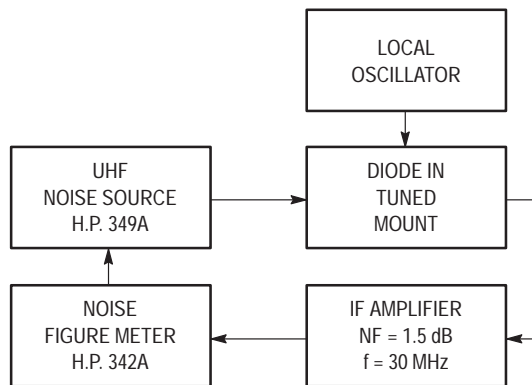

Figure 5. Noise Figure Test Circuit
- Note 2 — Noise figure measured with diode under test in tuned diode mount using UHF noise source and local oscillator (LO) frequency of 1.0 GHz. The LO power is adjusted for 1.0 mW. IF amplifier NF = 1.5 dB, $f = 30$ MHz, see Figure 5.